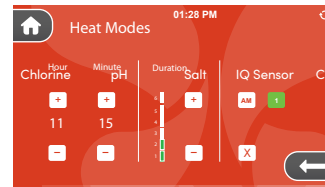

Figure 4
4. Press the button to activate setting 1 and turn button green Figure 4. You can deactivate the setting by pressing the button.